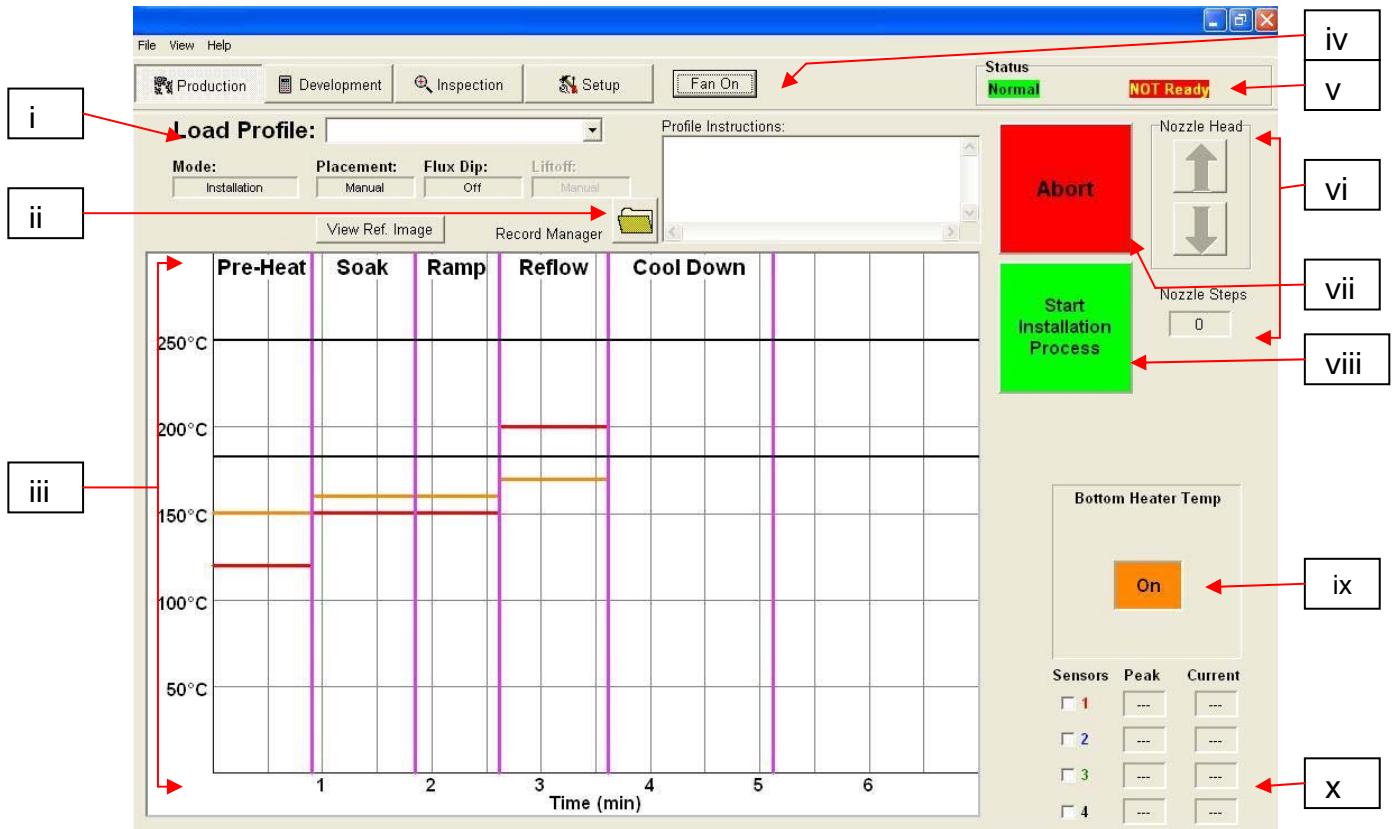

Figure 6a
- ii. Record Manager. Profile information may be stored and exported in PDF file format. See figure 6a